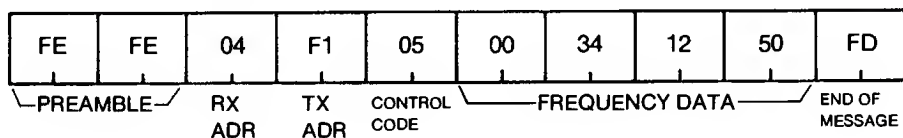

Fig. 22
- (4) If the controller sends a frequency which is above the tuning range of the IC-735, the IC-735 returns the NG (NOT GOOD) command. See Figs. 22, 23, and 24.